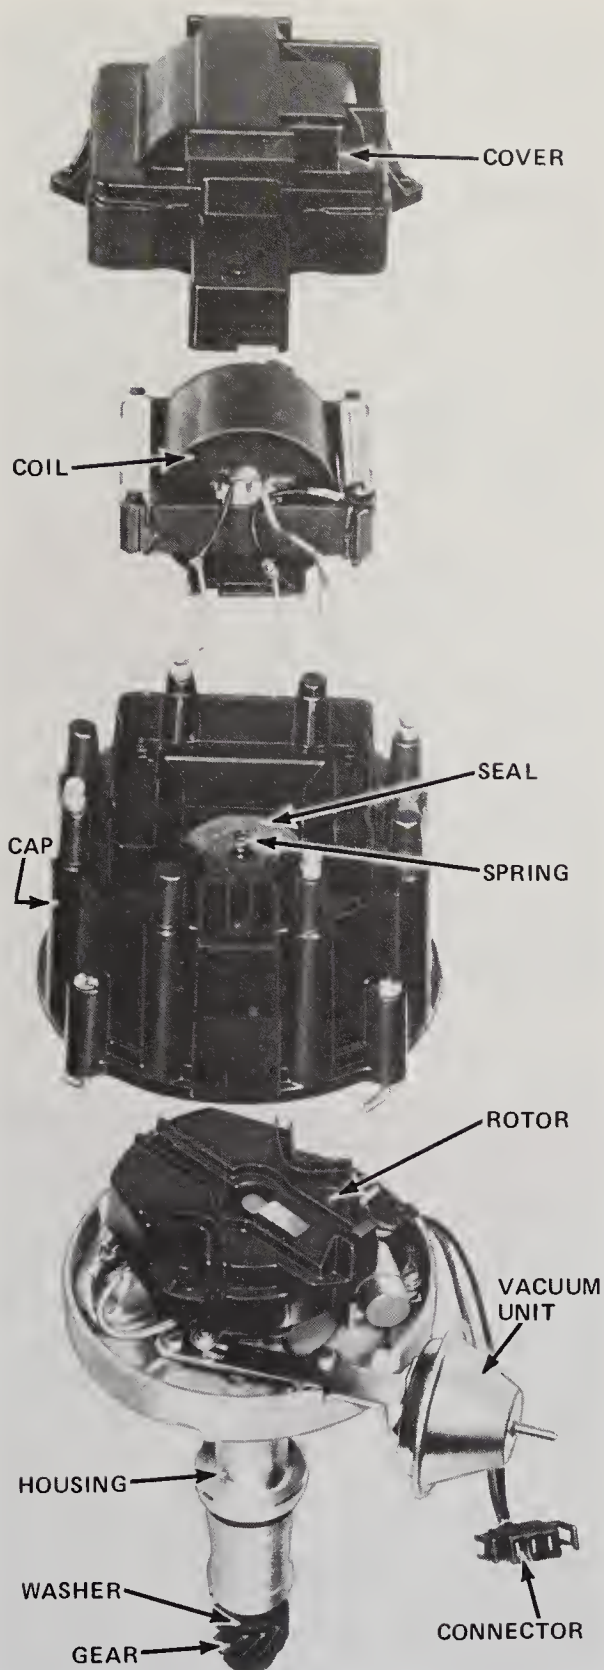

Fig. 32-8. Modern unitized distributor has ignition coil and amplifier (electronic switching circuit) mounted inside. Note part names and locations. (Chevrolet)
6. Some distributors (unitized distributors) house the ignition coil and electronic switching circuit. Refer to Fig. 32-8.